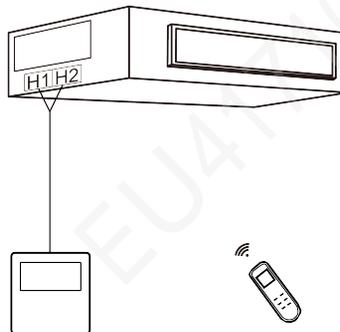

Fig.5.4.2
2) Fig.5.4.2 shows the installation of remote controller.